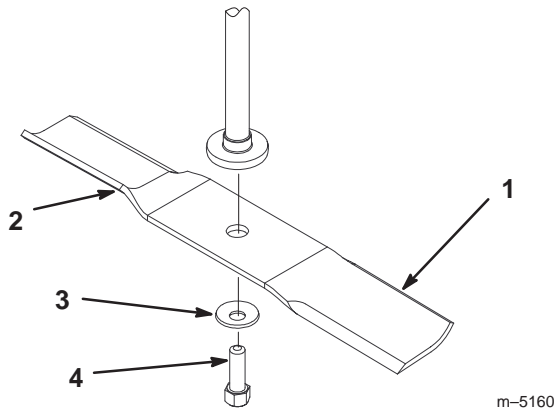
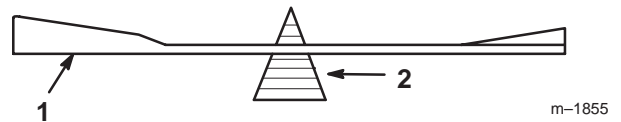

Figure 35
Figure 37
Hold the blade end using a rag or thickly-padded glove. Remove the blade bolt, curved washer, and blade from the spindle shaft (Fig. 35).
2. Check the balance of the blade by putting it on a blade balancer (Fig. 37). If the blade stays in a horizontal position, the blade is balanced and can be used. If the blade is not balanced, file some metal off the end of the sail area only (Fig. 35). Repeat this procedure until the blade is balanced.
1. Install the blade onto the spindle shaft (Fig. 35).
2. Install the curved washer (cupped side toward the blade) and blade bolt (Fig. 35). Torque the blade bolt to 35–65 ft.-lb. (47–88 N·m).